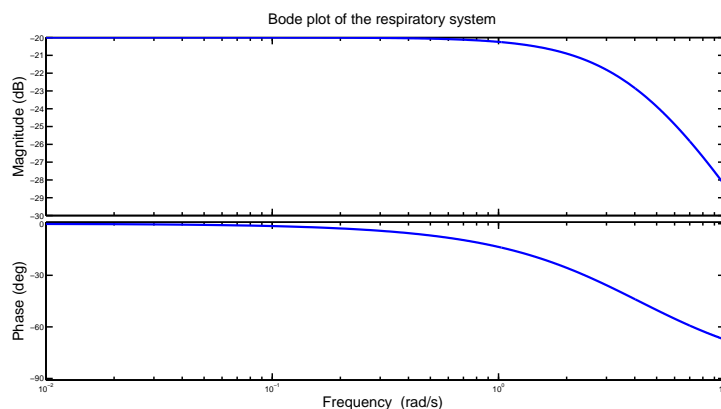

Figure 9.1 Bode plot of the respiratory system.
- What happens if you try to increase the breathing frequency (to say 1 Hz)? Answer the question by looking at the Bode plot in Fig. 9.1. Thereafter confirm your result by simulation.